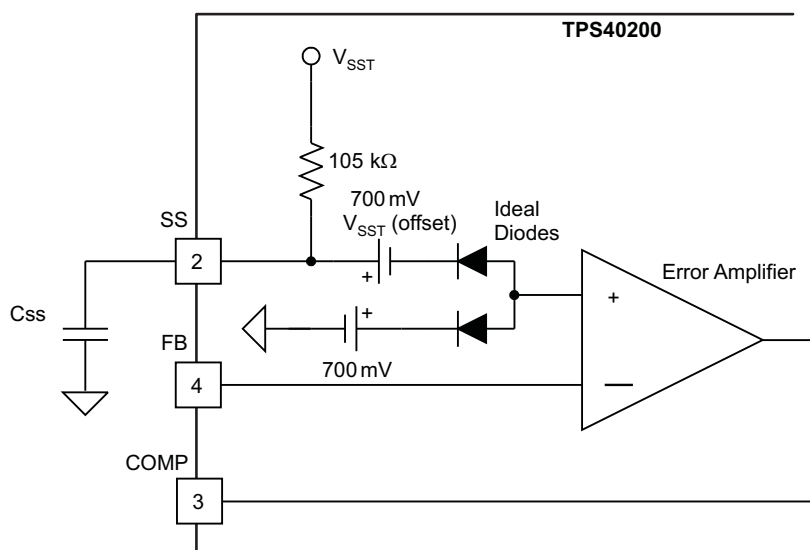

Figure 29. Soft-Start Circuit
An external capacitor,  $C_{SS}$ , connected from the soft-start (SS) pin to ground controls the TPS40200 soft-start interval. An internal charging resistor connected to VDD produces a rising reference voltage, which is connected through a 700-mV offset to the reference input of the TPS40200 error amplifier. When the soft-start capacitor voltage ( $V_{CSS}$ ) is below 150 mV, there is no switching activity. When  $V_{CSS}$  rises above the 700-mV offset, the error amplifier starts to follow  $V_{SST} - 700$  mV, and uses this rising voltage as a reference. When  $V_{CSS}$  reaches 1.4 V, the internal reference takes over, and further increases have no effect. An advantage of initiating a slow start in this fashion is that the controller cannot overshoot because its output follows a scaled version of the controller's reference voltage. A conceptual drawing of the circuit that produces these results is shown in Figure 29. A consequence of the 700-mV offset is that the controller does not start switching until the  $V_{CSS}$  has charged up to 700 mV. The output remains at 0 V during the resulting delay. When  $V_{CSS}$  exceeds the 700-mV offset, the TPS40200 output follows the soft-start time constant. Once above 1.4 V, the 700-mV internal reference takes over, and normal operation begins.